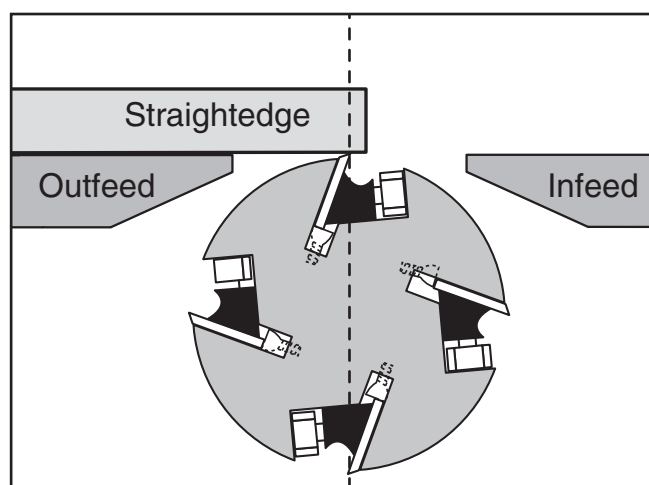

Figure 19. Using straightedge to check outfeed table height.
10. Place straightedge on outfeed table so it extends over cutterhead, and use cutterhead pulley to rotate cutterhead until one of the knives is at top dead center (their highest point during rotation), as illustrated in **Figure 19**.
When outfeed table height is correctly set, knife (at top dead center) will barely touch straightedge, as illustrated in **Figure 19**.